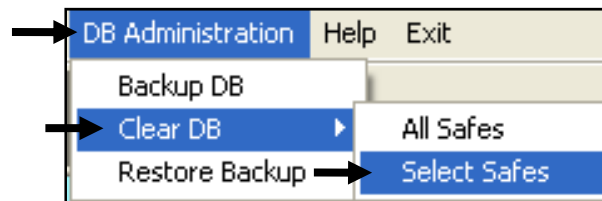

Fig. 10.5
- 1) To clear specific safes from the database, select the **Clear DB** option from the **DB Administration** menu and then choose **Select Safes** (Fig. 10.5).